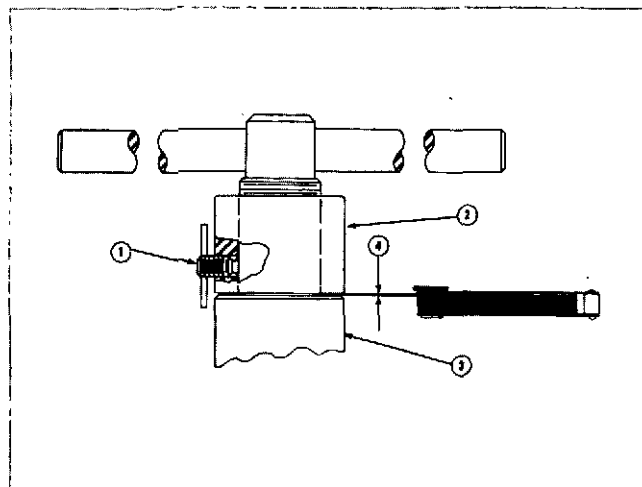

Fig. 1-1-32, V40159. Setting depth of cut
b. Loosen capscrew (7) and push down on dial indicator (5) to end of travel.
d. Tighten capscrew (7).
g. Place depth gauge on four counterbore measuring holes (1).
a. Loosen locking screw (1, Fig. 1-1-32).
b. Rotate adjusting nut (2) in counterclockwise direction until tool bit is resting on lowest part of counterbore ledge and there is clearance between housing (3) and adjusting nut.